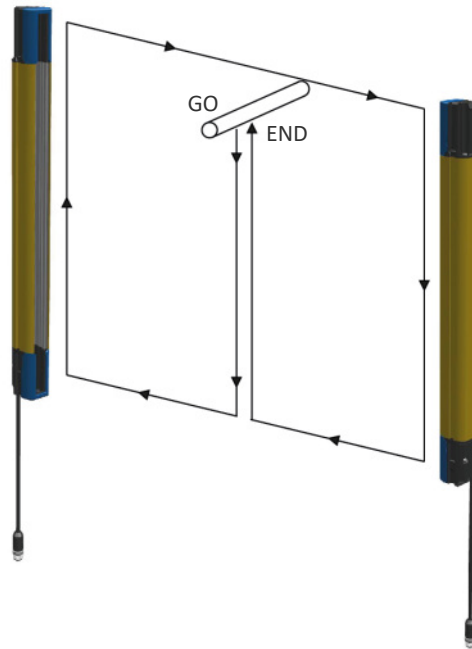

Figure 17: Path of the test piece
- The ESPE remains in Safe State intercepting the beams along the detection zone using the specific test piece (TC-14, TP-30), following the scheme shown in Figure 17.